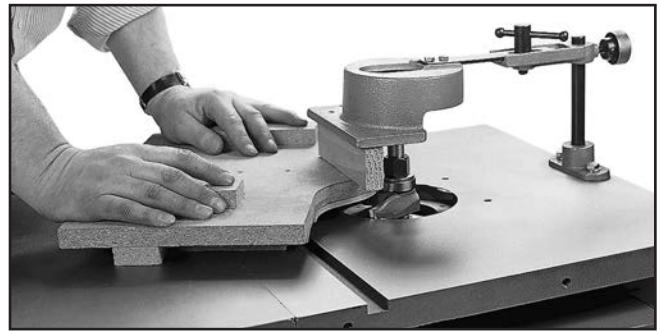
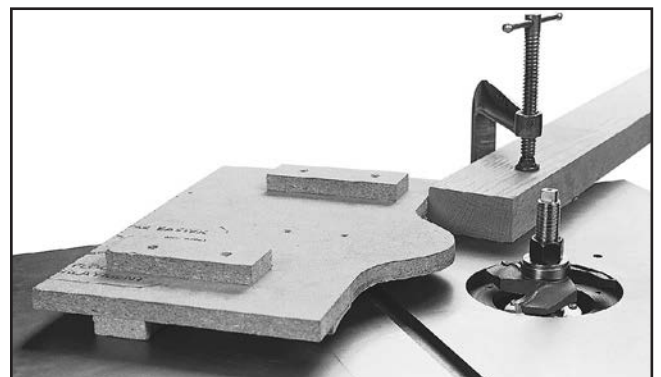

Figure 52. Use guard when doing freehand work. (Portion of guard removed for clarity.)
Figure 53. Use starting pin substitute when needed. (Guard removed for clarity.)
7. Use some type of hold-down fixture and guard when doing freehand work (see **Figure 52**).
Sometimes the starting pin will not be in the most advantageous position. If so, firmly clamp a board in the desired position to act as a starting pin (see **Figure 53**). Some type of pivot point **must be** used. Notice in **Figures 52 & 53** the operator is not exposed to the cutting edge of the cutter. Cutters are removing material from the bottom of the workpiece.